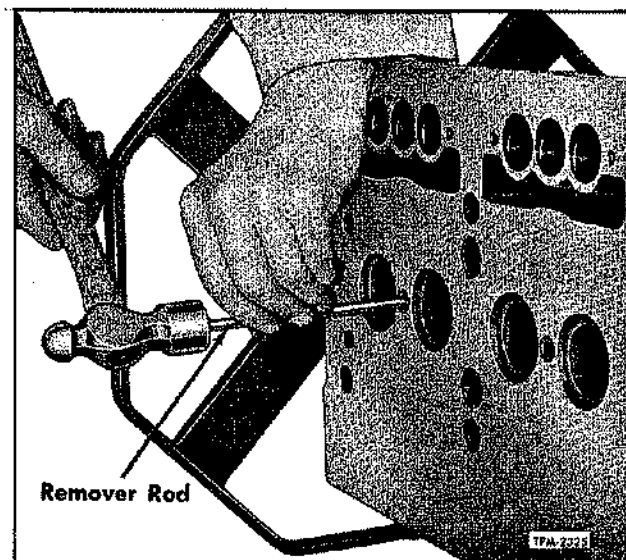

Figure 77—Removing Injector Copper Tube from Cylinder Head (Operation No. 2)
3. Remove tube holder, if used. Insert driving rod through injector tip hole until it is against center of tap. Use hammer and drive against end of rod, thus forcing threaded tap and copper tube from cylinder head. Refer to figure 77.